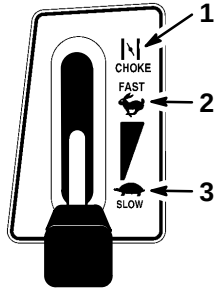

Figure 7
4. Move the throttle lever to "CHOKE" (Fig. 7).
6. After the engine starts, slowly move the throttle lever to "FAST" (Fig. 7). If the engine stalls or hesitates, move the throttle lever back to "CHOKE" for a few seconds. Then move the throttle lever to "FAST." Repeat this as required.
1. Move the throttle lever to “SLOW” (Fig. 7).